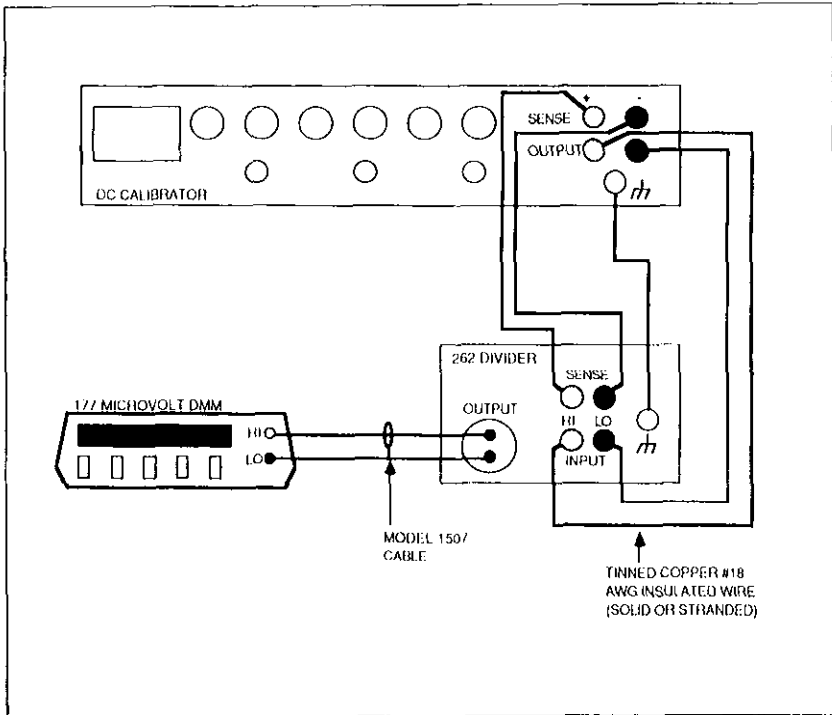

Figure 3. DMM Calibration
1. Set up the equipment as shown in Figure 3. The Model 1507, a low thermal input cable terminated with copper lugs, is recommended when connecting to five-way binding posts. For DMMs that have banana jacks that are not five-way, low thermal banana plugs* must be used.